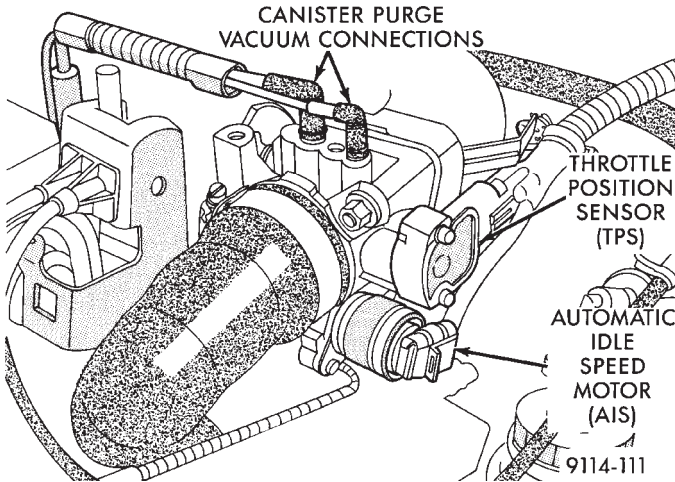

Fig. 16 Throttle Body Electrical and Vacuum Hose Connections
(19) Verify the harness connector is attached to AIS motor (Fig. 16).
(20) Verify the harness connector is attached to the throttle position sensor (Fig. 16).
(21) Check hose connections at throttle body (Fig. 16).